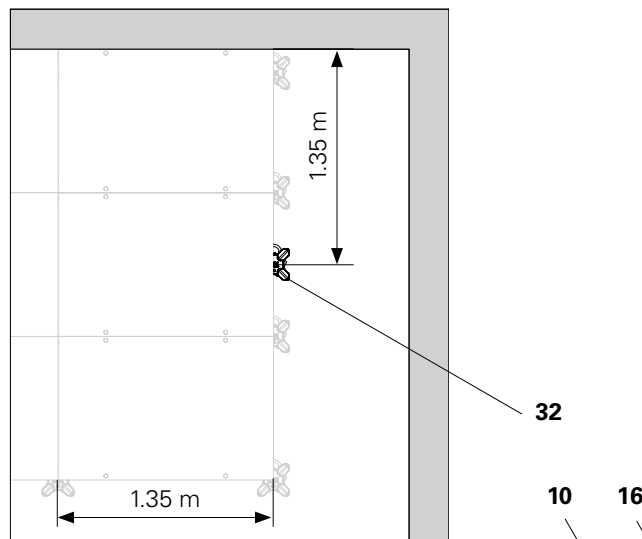

Fig. D3.01
1. Form the slab with the DP panel (10) to the greatest extent possible (Fig. D3.01), see also section D2 Shuttering.
2. Depending on the remaining dimension, select a standard panel (10) or a panel with a small width. The DP panel (10) is installed crosswise. Keep the compensation area as small as possible.
3. Mount the 18 DFS filler support (16) on the long panel side using 2 DUO couplers (21). The 18 DFS filler support (16) is equipped with teeth that grip into the connector pockets (10.2) of the DP panel. The teeth must point away from the concrete.
1. Place the slab prop with DFH prophead (32) at the end of the panel in an inclined position from the inside and align outwards. Spacing 1.35 m (Fig. D3.01)